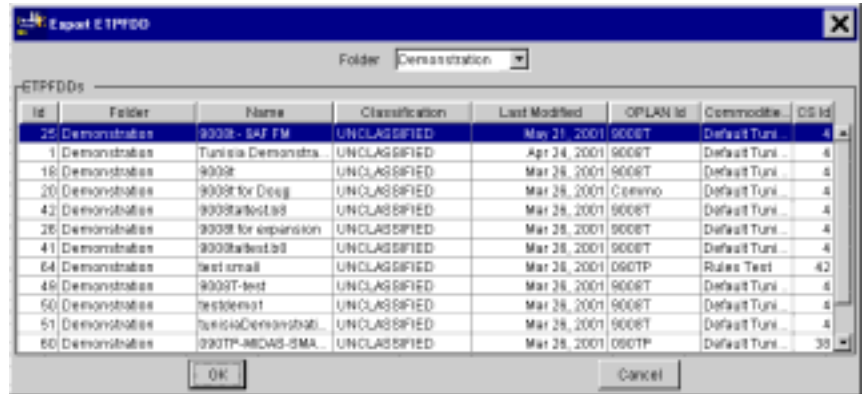

Figure 5.24 Export ETPFDD Window
1. On the ETEdit (main) window, on the File menu, click Export ETPFDD. The Export ETPFDD window opens (Figure 5.24).